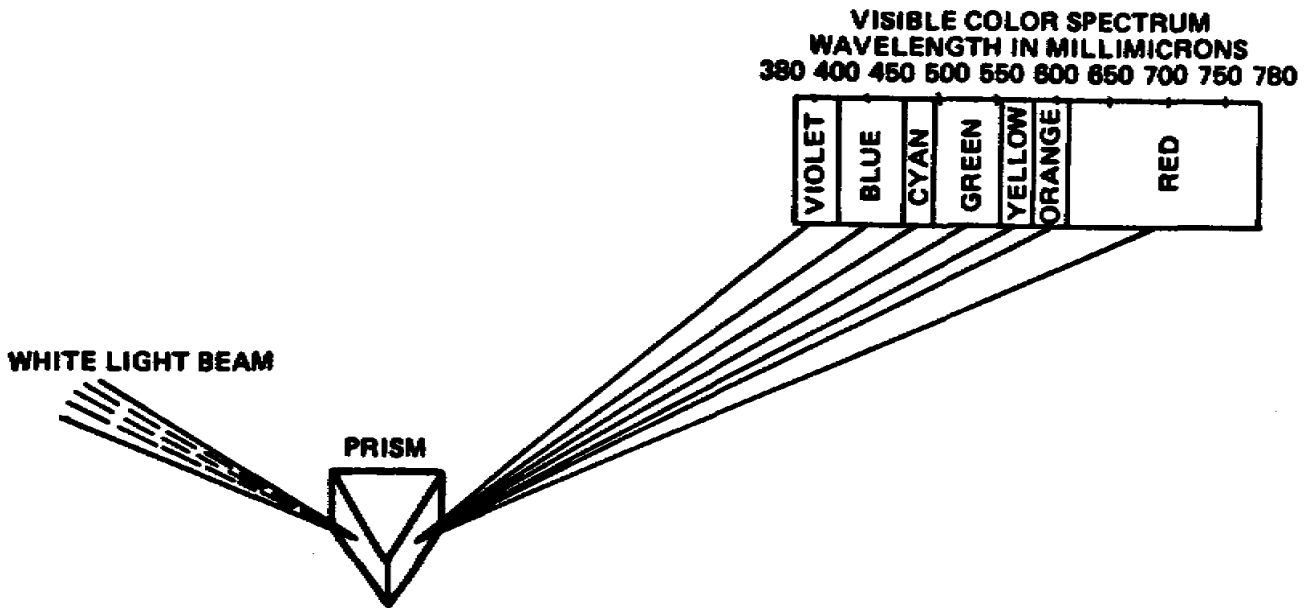

Figure 2-1. Effect of prism on white light
2. The white light can be divided into component radiations by passing a narrow beam of light through a glass prism (see figure 2-1). The resulting band of colored light is called the visible spectrum of light in which the principal colors are red, yellow-green, blue-green and blue.